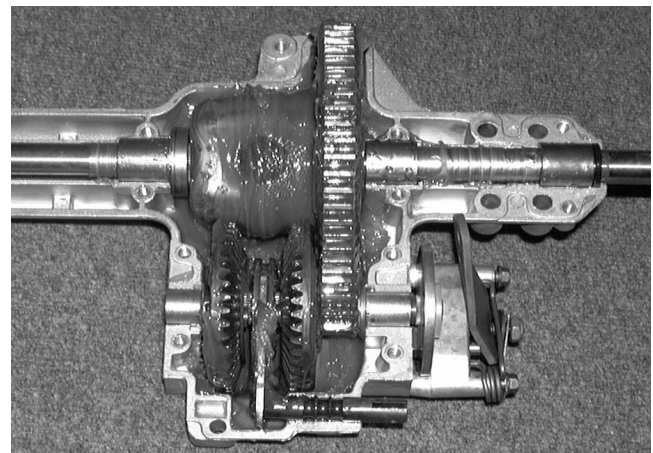

FIGURE 7.
- 26). Fully grease the transmission. See figure 7.